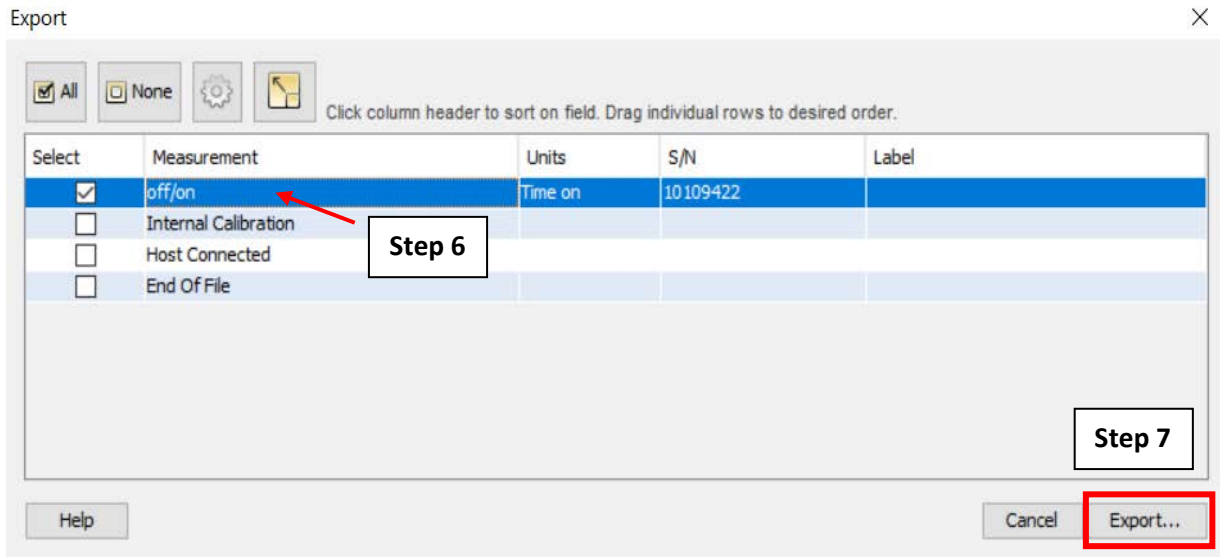

Figure A.1.18: The “Export” pop-up window and corresponding steps.
4. The “Export” window will open and display the data available to export (Figure A.1.18).